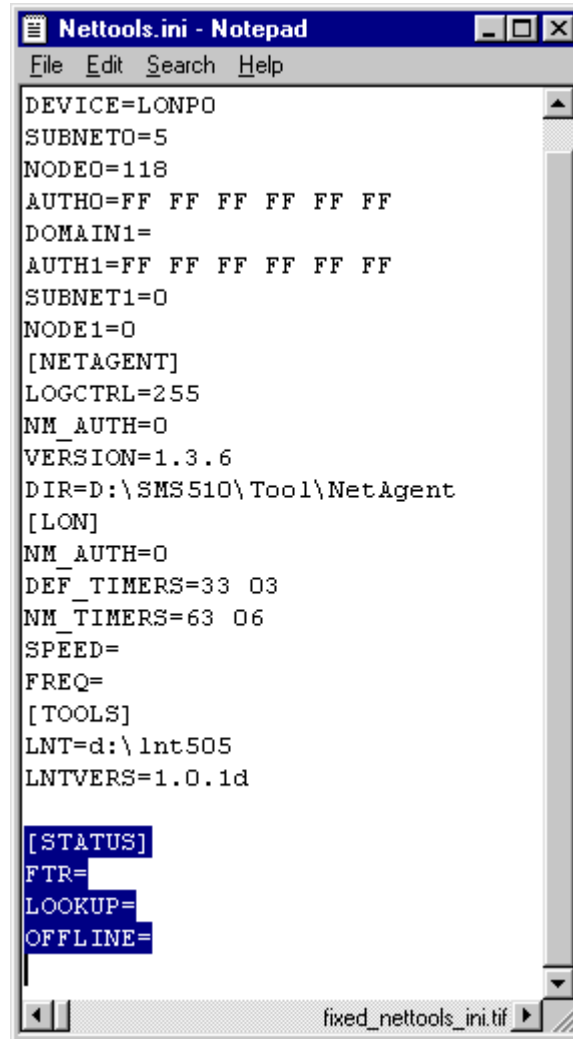

Fig. 5.6.3.-2 An example of the file NETTOOLS.INI. As the selection indicates, the values have been removed.
3. Under the section STATUS, empty the values of the keys FTR, LOOKUP and OFFLINE as illustrated in Figure 5.6.3.-2 below.